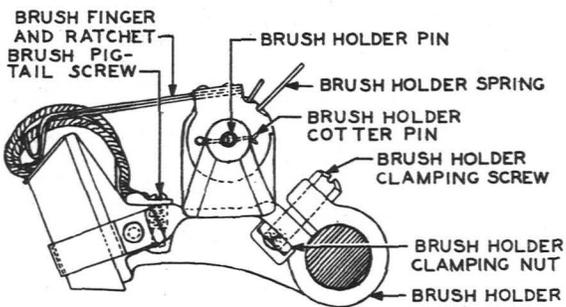

Fig. 3 - Box-Type Brush Holder
(1) Remove the brush from the brush holder as outlined in 3.10. Remove the brush holder mounting nut. Remove the brush holder and mounting bolt from the stud. Mount the new brush holder and remount the brush.
**3.12 Brush Holder of Types Shown in Fig. 3, 4, and 5**